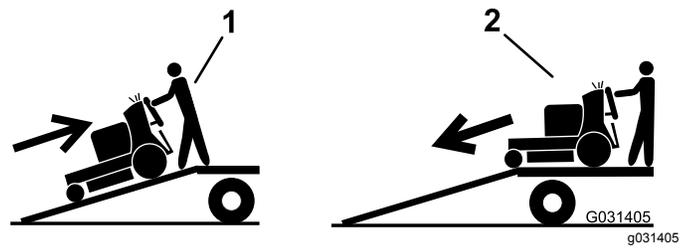

Figure 25
5. Back the machine up the ramp (Figure 25).